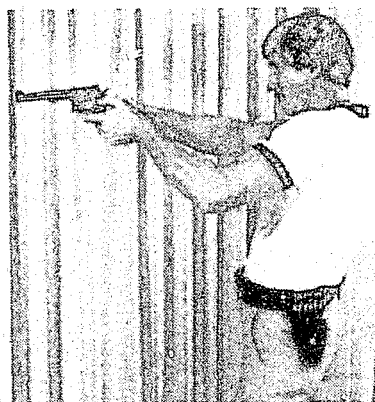

Figure 6-23
- b. The weak arm should be bent at about 90° and positioned downward to the point where optimal aid is provided in creating the isometric tension. (See Figure 6-23)